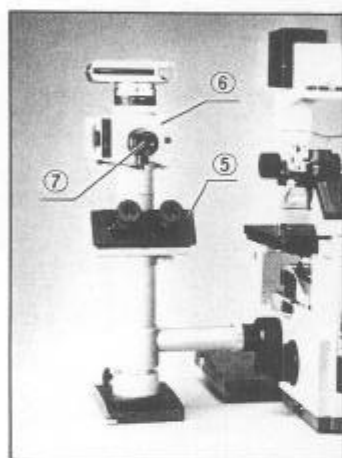

Fig. 42
- 6) Attach the trinocular tube ⑤. (Fig. 42)
- 8) Connect the PM-10AD attachment ⑥. (Fig. 42)
- ★ Please be sure to use the focusing magnifier ⑦ built-in the photomicrographic attachment for focusing or framing.